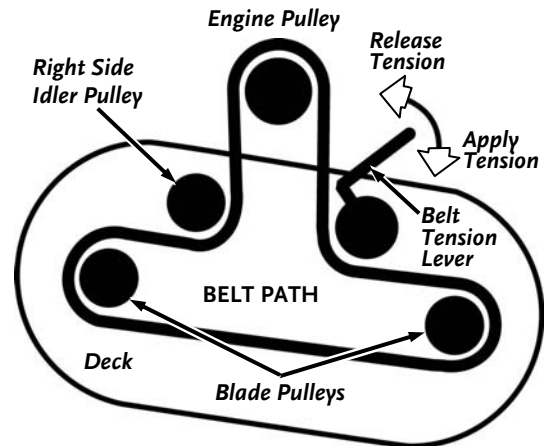

Figure 13
3. Push and hold the Belt Tension Release Lever towards the center of the machine. (**Figures 13 and 14**).
9. To mount the new Belt, reverse the above procedure. The correct Belt travel on the Pulleys is shown in **Figure 13**.